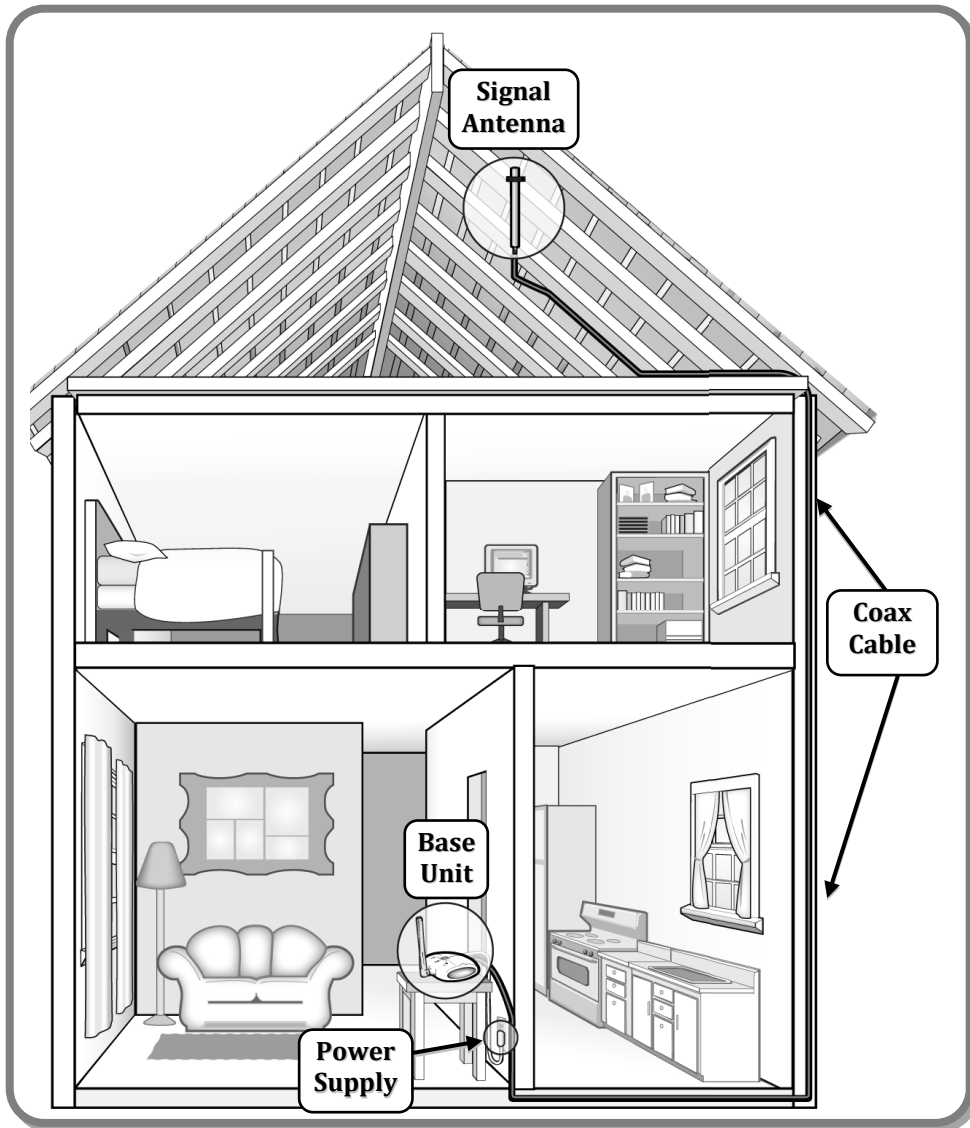

FIGURE 9: Placing the Signal Antenna in the Attic
3. Position the mounting bracket such that the Signal Antenna will be vertical and attach the Signal Antenna (see figure 9).